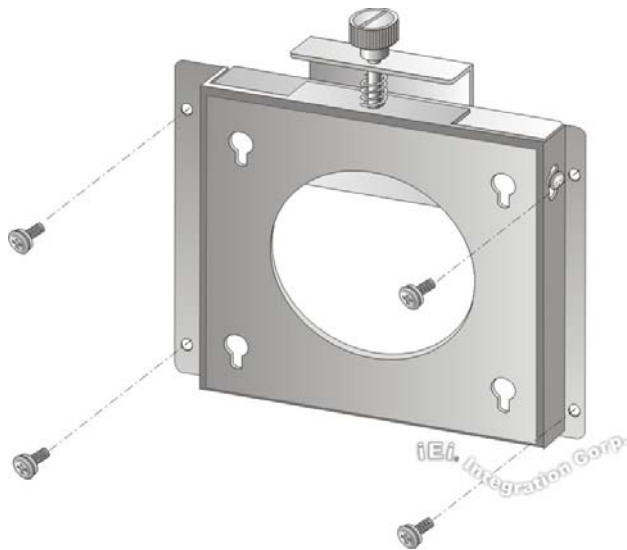

Figure 3-17: Wall-mounting Bracket
- Step 5:** Secure the mounting-bracket to the wall by inserting the retention screws into the four pilot holes and tightening them (**Figure 3-17**).